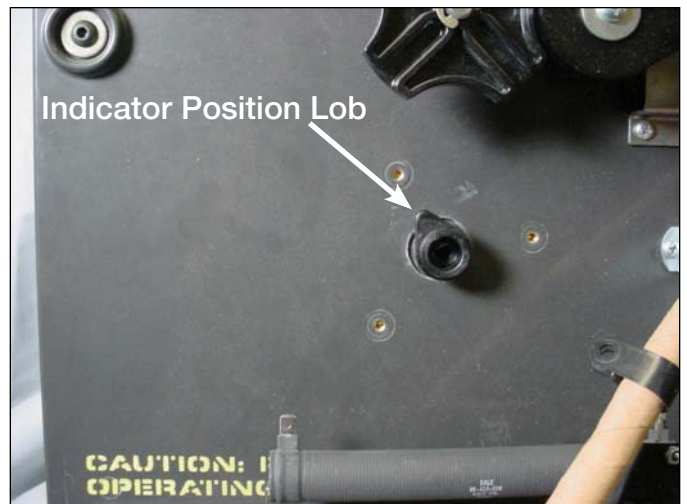

Figure 11.
- Remove the tapping indicator position lobe pointer from the tap changer. The lobe may have to be pried a little to be removed. See Figure 11.